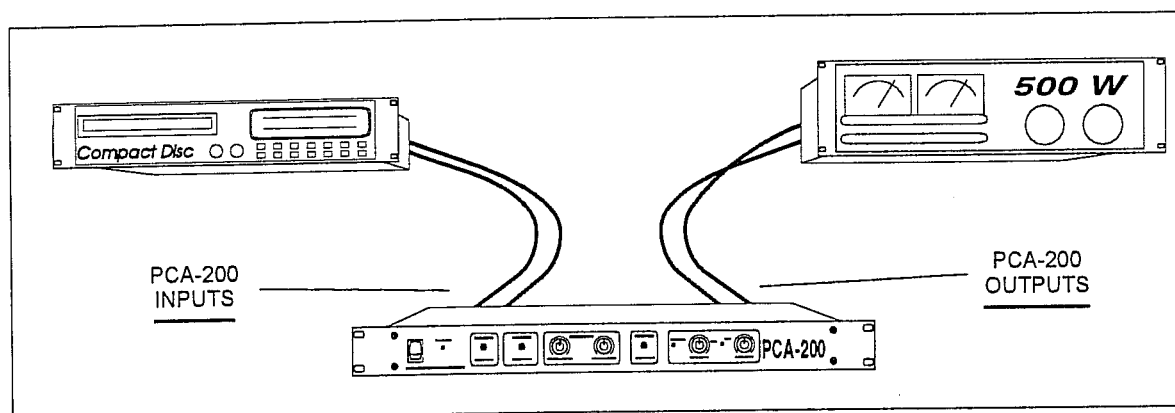

Figure 3-1: The PCA-200 Inserted in a System
**Insert It In Your System** The simplest way to use the PCA-200 is as an *insert device*, that is, inserted in a line between a sound source and an amplifier. See Figure 3-1.